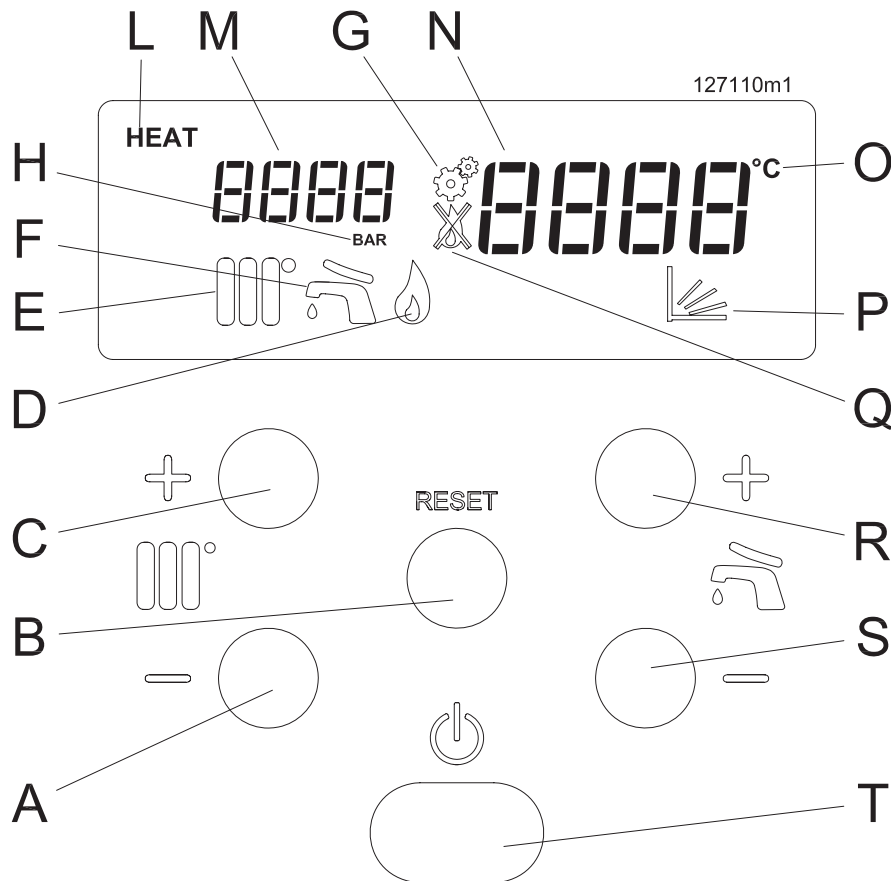

Figure 7.1 - Control board
Key for figure 7.1
0.5 bar, the visual display "N" in figure 7.1, shows **F I L L** to indicate that the correct pressure must be restored.
- 3.- check the pressure on the visual display "M" in Figure 7.1, it must reach the pressure of 1 - 1.5 bar (the **F I L L** indication disappear on exceeding 0.8 bar);
Entry into the "User menu" is highlighted by the visual display "M", in figure 7.1, which indicates parameters that can assume values from **100 l** to **1999**. To enter the "User menu":
The temperature of the domestic hot water is adjusted by operating on the  and  keys. On pressing one of the two keys, the visual display “N” in figure 7.1 will start to flash and show the temperature that is being set. The range of adjustment for the temperature of the domestic hot water goes from 40°C to 60°C or from 40°C to 70°C if there is an indirect water heater present.
By holding the  key down also below 40°C, **OFF** will appear to indicate switch-off of the domestic hot water service, also highlighted by switch-off of the icon “F” in figure 7.1.